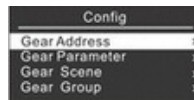
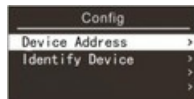
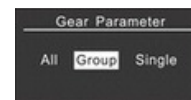

Figure 7
Figure 9
Figure 14
- The first page of the control gear parameters configuration is shown in Figure 7.
- The third page of the control gear parameters configuration is shown in Figure 9. There are a total of 8 functions available for configuration. The function currently selected will be displayed with black font on a white background.
After enter control gear control parameters configuration page as shown in Figure 7 to Figure 9, select the function of "Gear Address" by short press up key \triangle or down key ∇ , then short press confirm key \leftarrow to enter Address Configuration page as shown in following Figure 10 to Figure 13. There are 3 config types available: "Assign" "Delete" and "Modify". Move the cursor to "ConfigType", then short press plus key $+$ or minus key $-$ to switch the 3 config types.
Switch to "Assign" config type, the first page of "Assign" config type is as shown in following Figure 9, short press up key \triangle or down key ∇ to select different operations, the second page of "Assign" config type is as shown in following Figure 11.
Enter gear configuration home page as shown in above Figure 7 to Figure 9, short press up key \triangle or down key ∇ to select "Gear Parameter", then short press confirm key \leftarrow to enter gear parameter configuration page as shown in following Figure 14.